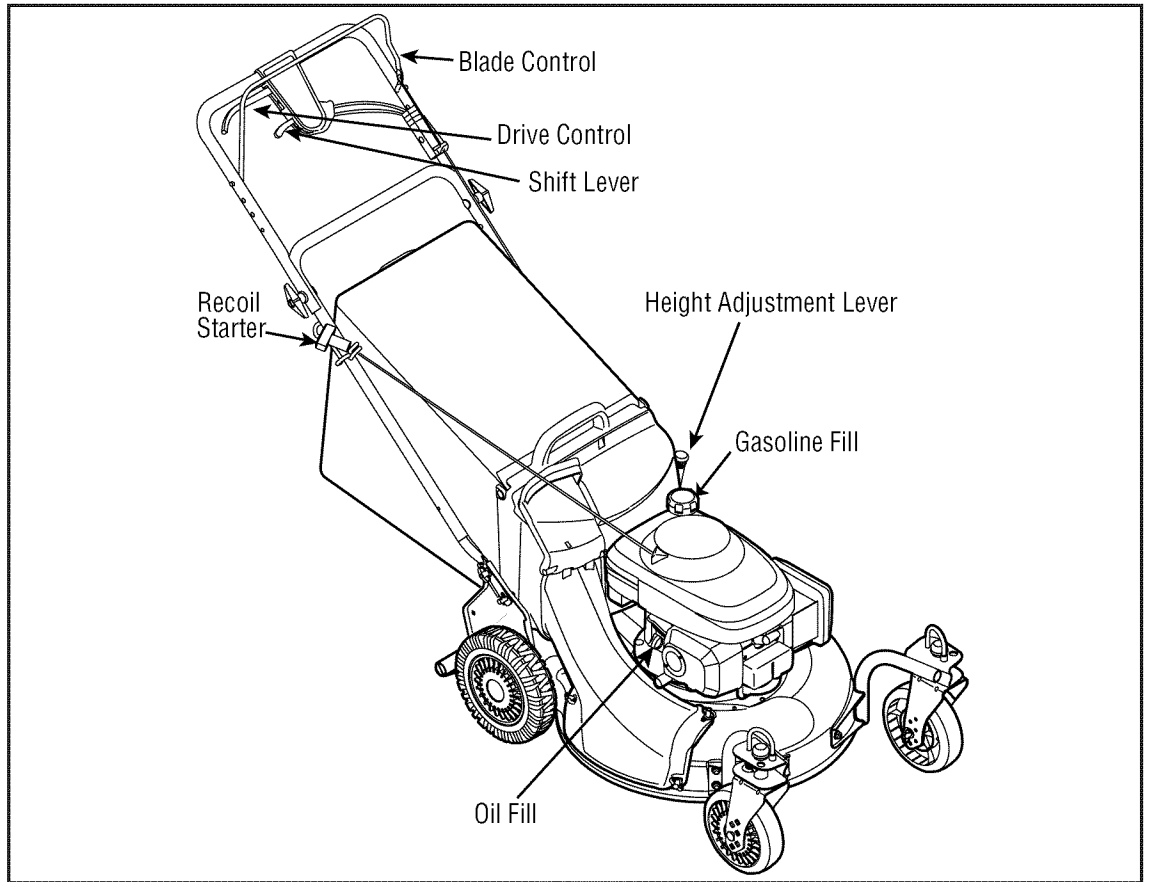

Figure 9
The drive control is located on the upper handle. Squeeze the drive control to engage the drive system. Release it to disengage the drive system. Release the drive control to slow down when approaching an obstacle, making a turn, or stopping. See Figure 9.
1. Check oil level and add oil if necessary. Follow engine manual for this. See Figure 9 above for location of the oil fill.
2. Service the engine with gasoline as instructed in the engine manual. See Figure 9 above for location of gas fill.